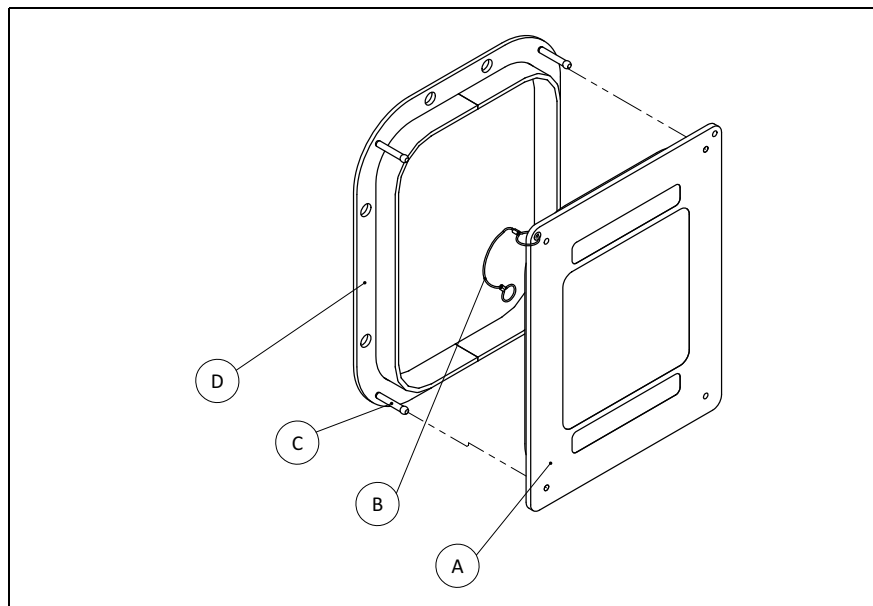

Fig. 1: Installing the Martin® inspection door with rubber door
1. The rubber door (A, Fig.1) should be removed from the door frame (D, Fig.1).
5. Screw or weld the door frame and the wire rope (B, Fig.1) into the wall as follows.
7. Put the holes in the rubber door onto the bolts (C, Fig.1) on the door frame, until it sits properly on the door frame.